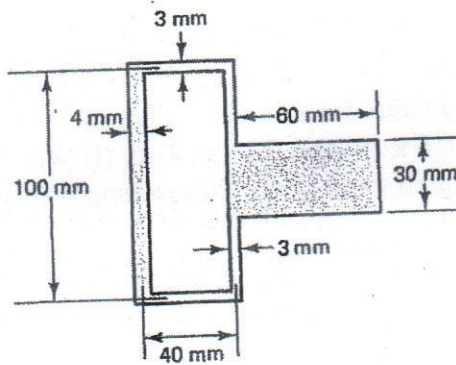

Fig. 6
- (b) A shaft having the cross section shown in Fig. 6 is subjected to a torque $T = 150$ (15) N.m. (i) Estimate the percentage of torque carried by each of the two cross-sectional components, and calculate the maximum shear stresses in each part, neglecting stress concentrations. (ii) Find the angle-of-twist per unit length caused by the applied torque. Let $G = 25 \times 10^3$ GPa.